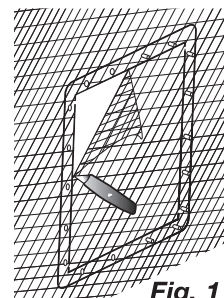

Fig. 1
Step 5 – Firmly push screen down over the protruding posts (9) places to secure screen to frame. Holding frame in place, use a utility knife with a sharp (new) blade to cut screen on the inside of the outside frame to make opening for the flap assembly (see Fig. 1). Cut all four sides. Also cut a slit in the screen at the top hinge location and a slit in the bottom lock location.